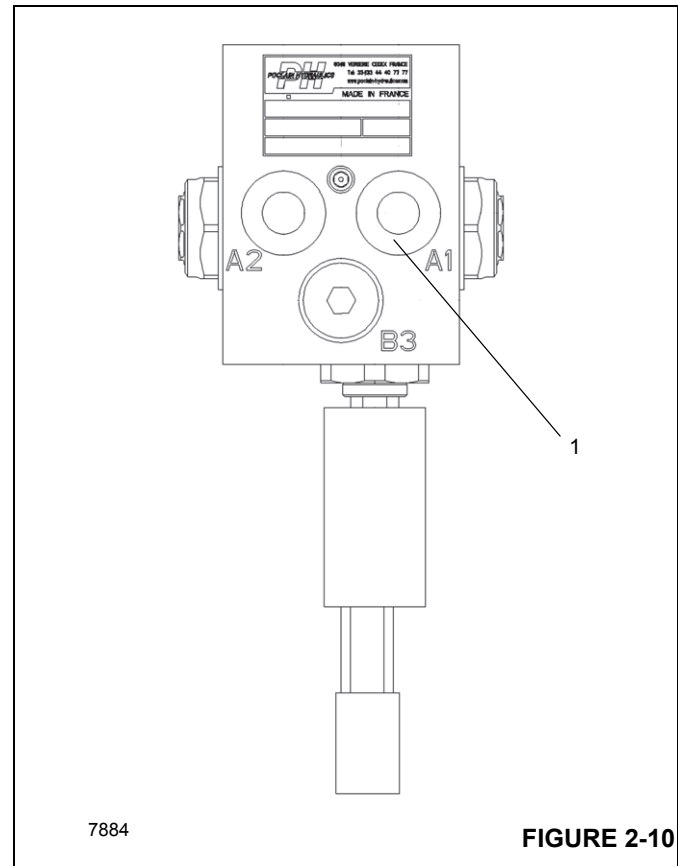

FIGURE 2-10
2. Install a pressure gauge at the service brake dual accumulator charge valve "A1" pressure test port (1, Figure 2-10).